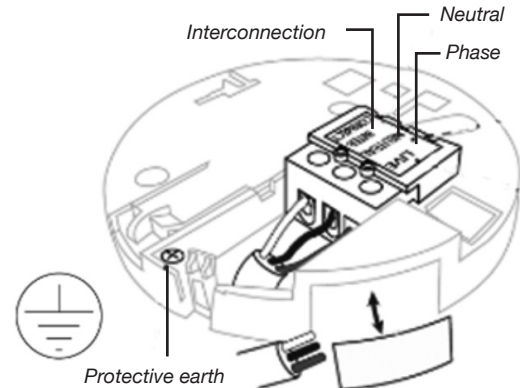

Figure 5
- Protective earth does not need to be connected to the smoke alarm, the yellow/green wire is connected to support terminal marked with earth symbol for relay. *See Figures 5 & 6.*